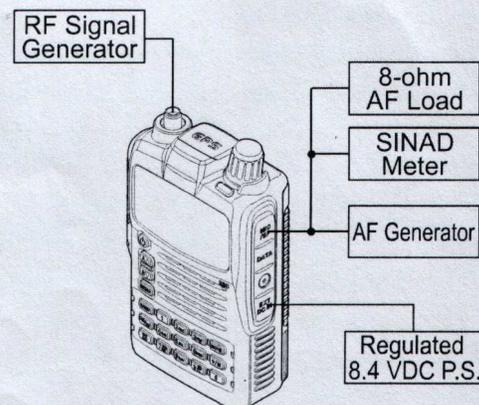

Figure 2: RX Alignment Setup
- Connect the test equipment as shown in Figure 2: RX Alignment Setup.